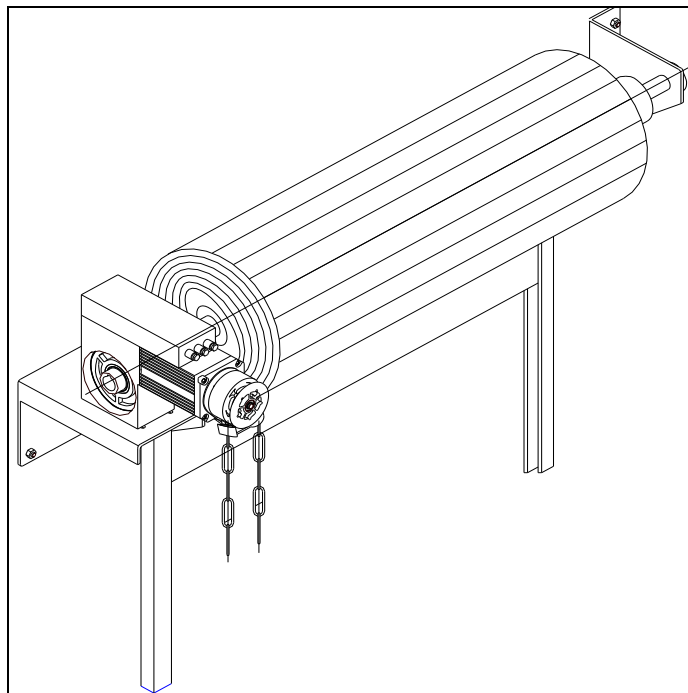

Fig.9
- KG400S door operator also can be used on large rolling door see Fig.9.